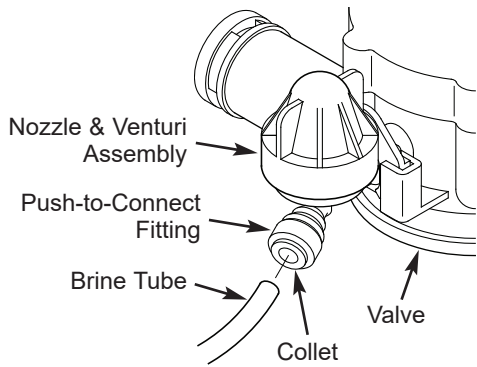
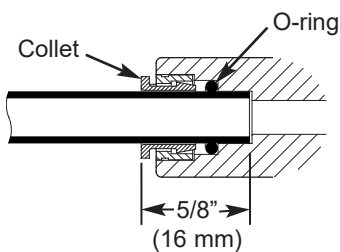

FIG. 8
FIG. 10
- Connect brine tube by inserting end into push-to-connect fitting on the valve's nozzle & venturi assembly (Figure 8). Push it until at least 5/8" (16 mm) of tube is inserted (Figure 10).